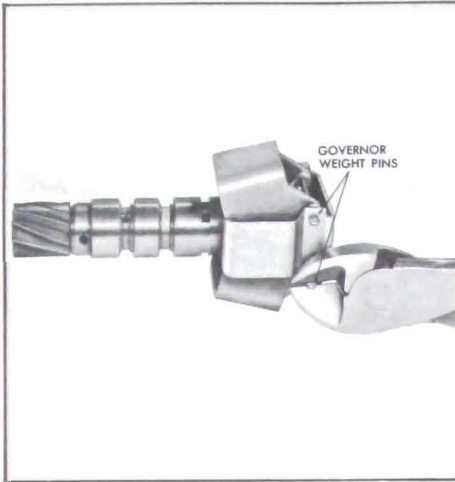

Figure 5-569
1. Cut off one end of each governor weight pin and remove pins, governor thrust cap, governor weights, and springs. Governor weights are interchangeable from side to side and need not be identified. See Figure 5-569.